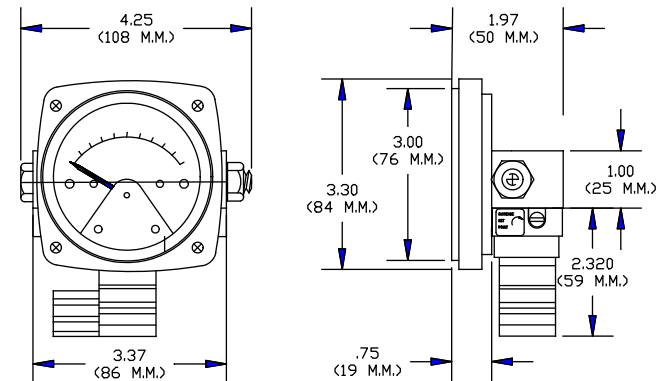
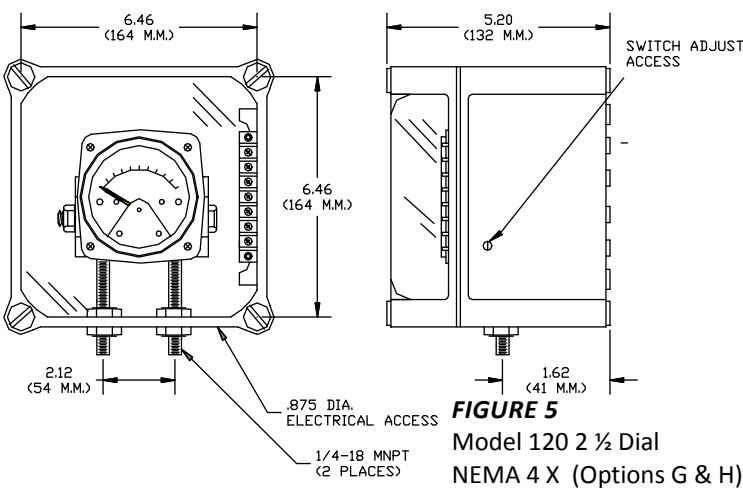

FIGURE 5
FIGURE 6
Wall mounting brackets are not required for the G, H, J & K electrical configurations because they can be mounted via the enclosure mounting ears (J & K) or mounting holes built into the enclosure (G & H). See figures 5 and 6 (Electrical configurations G & H) and Figure 8 for electrical configurations (J & K).
Access the terminal strip by removing the cover from the enclosure and loosening the (4) screws. Insert wires through an appropriate weatherproof connector (not supplied) into the enclosure and connect to the terminal strip. See the terminal strip diagram shown below or on the outside of the switch enclosure. Reinstall the cover and (4) screws (See Figures 5 & 6). For an assembly with 2 switches, the single switch adjust is located on the right side of the enclosure.
External Switch adjust access holes and plugs are provided for the enclosure for the 2 1/2" dial. (See Figure 5). The cover for the Model 120 with 4 1/2" Dial must be removed to adjust the switch settings. (See Figure 6).